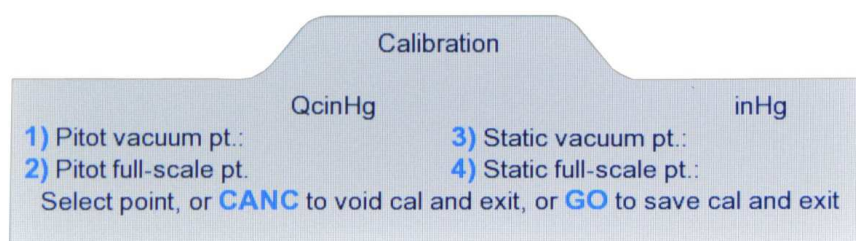

Figure 6.3 : Calibration (Main)
6. Enter '1.600' followed by **ENTER** on the keypad. The highlighted field will be replaced by '1.600'. Press **CLR** to return to the point-selection screen (Figure 6.3). You should see '1.600' on this screen, as the Static vacuum point. This indicates to the 6270 that the absolute pressure on the Static output is currently exactly 1.600 inHg.
9. Enter '0.000' (or simply 0) followed by **ENTER** on the keypad. The highlighted field will be replaced by '0.000'. Press **CLR** to return to the point-selection screen (Figure 6.3). You should see '0.000' on this screen, as the Pitot vacuum point. This indicates to the 6270 that the differential pressure on the Pitot output is currently exactly 0.000 inHg.
12. Enter '30.000' (or simply 30) followed by **ENTER** on the keypad. The highlighted field will be replaced by '30.000'. Press **CLR** to return to the point-selection screen (Figure 6.3). You should see '30.000' on this screen, as the Pitot full-scale point. This indicates to the 6270 that the differential pressure on the Pitot output is currently exactly 30.000 inHg.
15. Enter '32.000' (or simply 32) followed by **ENTER** on the keypad. The highlighted field will be replaced by '32.000'. Press **CLR** to return to the point-selection screen (Figure 6.3). You should see '32.000' on this screen, as the Static full-scale point. This indicates to the 6270 that the absolute pressure on the Static output is currently exactly 32.000 inHg.